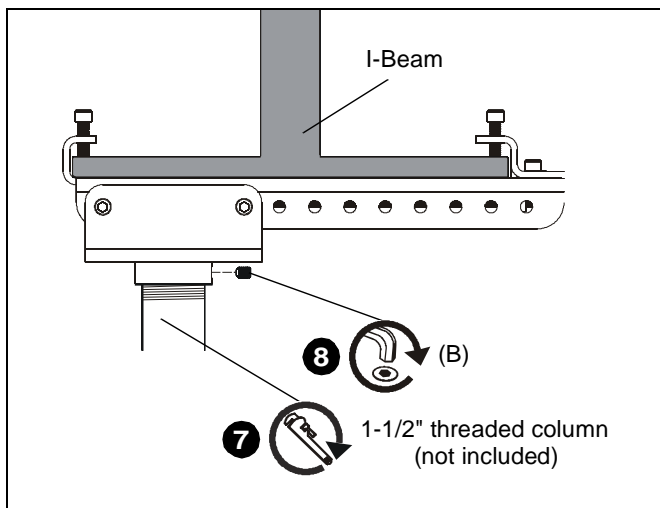

Figure 6
7. Using pipe wrench, install 1-1/2" NPT or NPSM following ANSI/ASME B1.20.1 (Schedule 40, 0.154" minimum thickness aluminum - ASTM B221) threaded extension column (not included) into threaded collar until tight, with a minimum of four threads engaged. (See Figure 6)
8. Using 5/32" hex key and 5/16-18 x 3/8" set screw (B), secure CMA360 to threaded extension column. (See Figure 6)